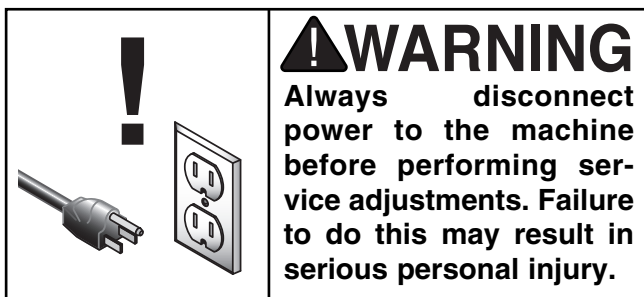

Figure 16. Motor brush cap.
2. Remove the motor brush caps with a flat-head screwdriver. One of the caps is shown in **Figure 16**. The other is on the opposite side of the motor.